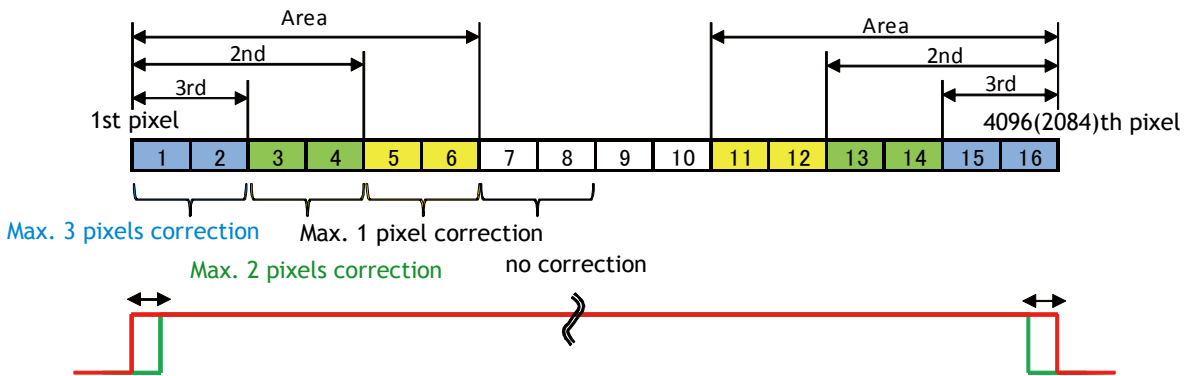

Fig. 25 Setting example
**Area :** This command specifies the area in which pixel shifting will be applied. The image is divided into 16 blocks, with each block representing 256 pixels. Enter a number from 1 to 8 to specify the inner edge of the pixel shifted area. The value is automatically mirrored on both the left and right sides of the image. If the left side pixel value is +/-1, only Area setting ( 1 to 6 blocks in fig. 25) is used and all pixels in this area will be shifted by 1 pixel. All pixels outside this area (7 and 8, white blocks) will remain unshifted. If the left side pixel value is +/-2 or +/-3 use the 2nd Pixel Block and 3rd Pixel block fields to define a gradual shift from the edge to the center of the image.
**2nd pixel block :** If the left side pixel value is 2 or more pixels, enter a number in this field to specify the block where the compensation will transition from a 2-pixel shift to a 1-pixel shift. The value entered is automatically mirrored on both the left and right sides of the image. Blocks 1 to 4 in fig.25, are where the 2 to 1-pixel shift will be applied.